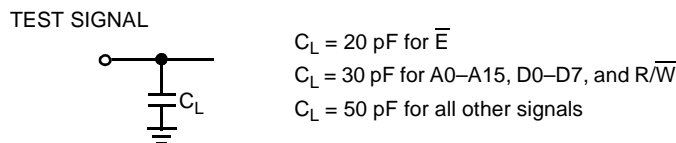

Figure 2. Signal Loading for Timing Specifications Unless Otherwise Specified
- 19. The three-state condition is when the device is not actively driving data. Refer to Figure 2 and Figure 5 for detailed measurement information.